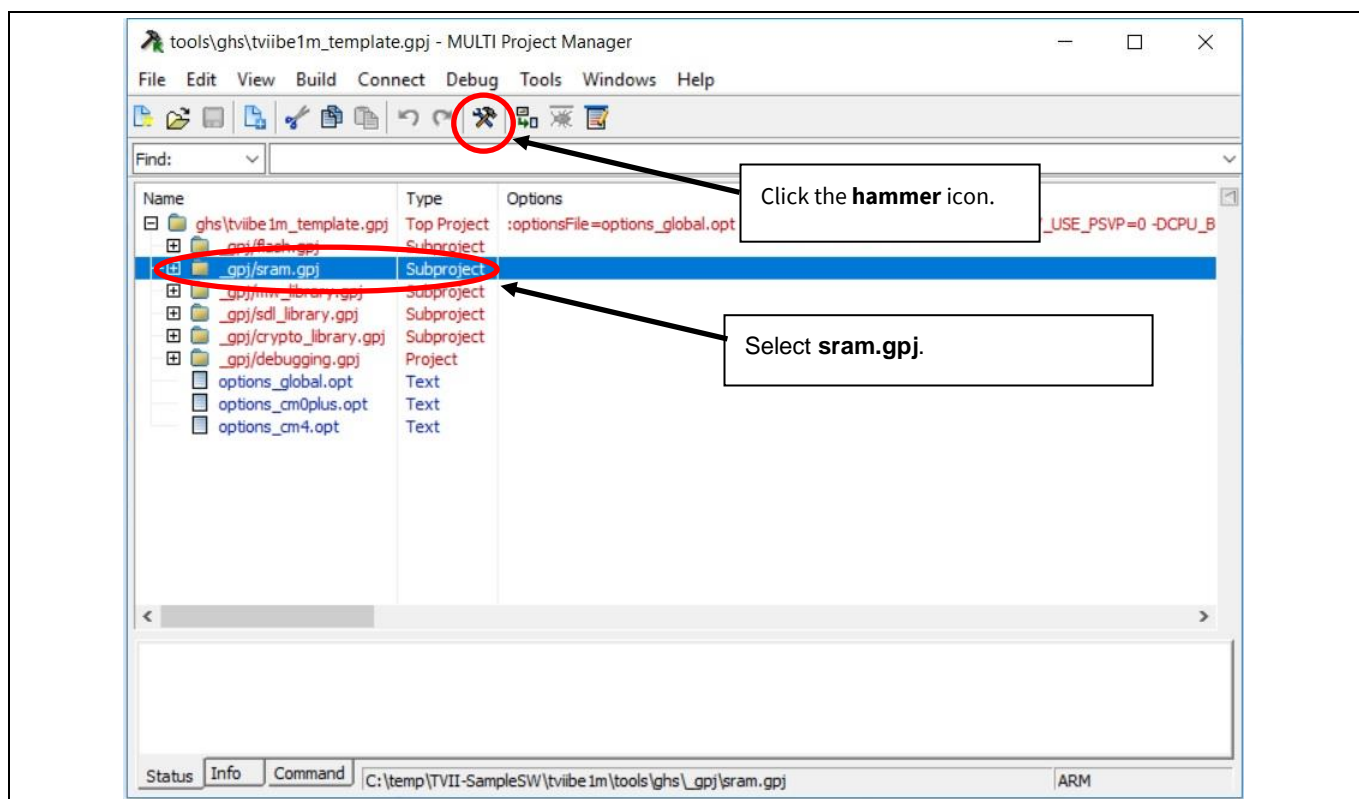
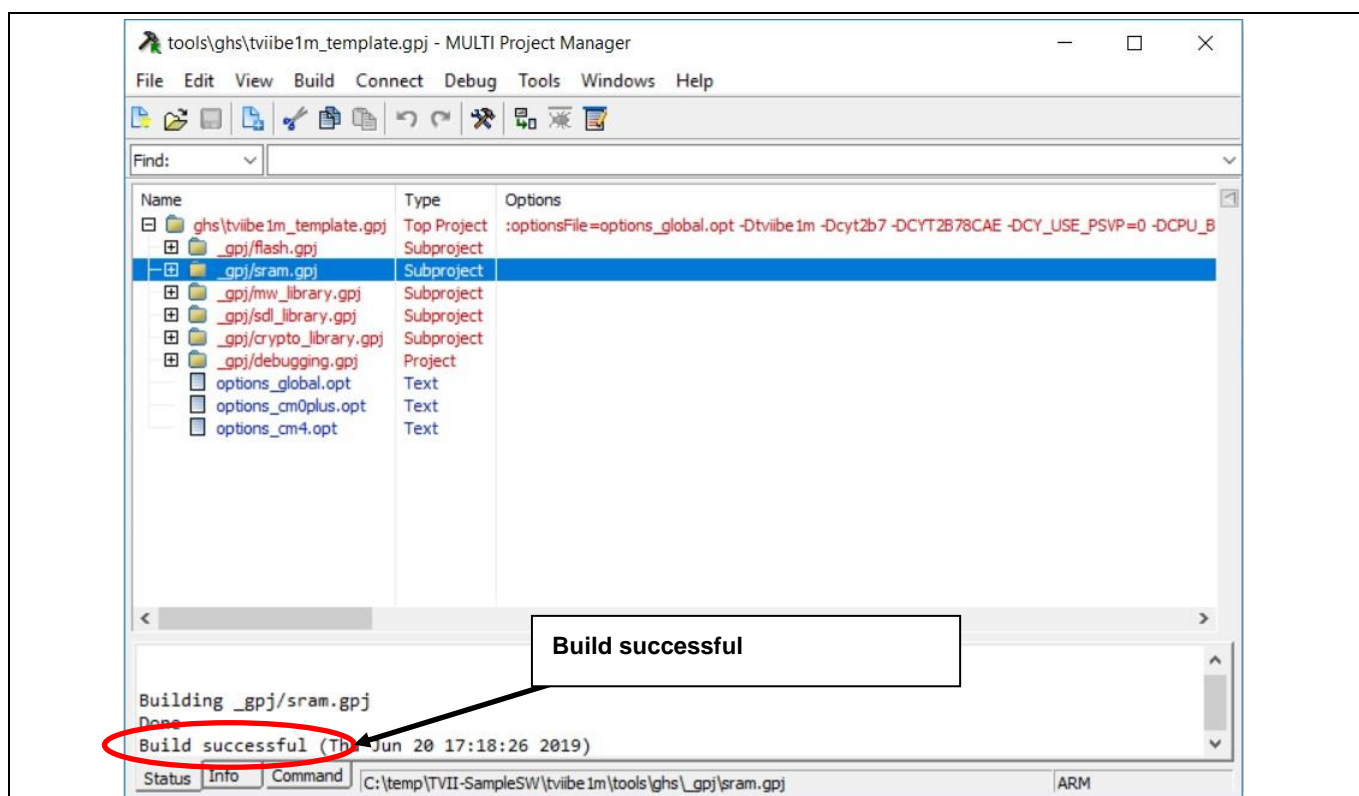

Figure 8 Build the project of SDL project
Figure 9 Build successful of the project of SDL project
- For the build, select *sram.gpj* and click the **hammer** icon as shown in **Figure 8**. The build starts and successful messages appear as shown in **Figure 9**.